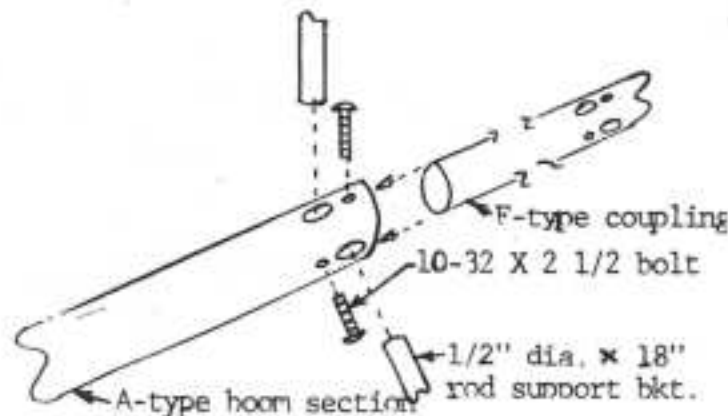

figure 4
- 4) Install the F-type coupling in the appropriate end of an A-type boom section. Again insert 2 rod support brackets through both the boom section and coupling after aligning the 1/2" dia holes. Refer to figure 4.